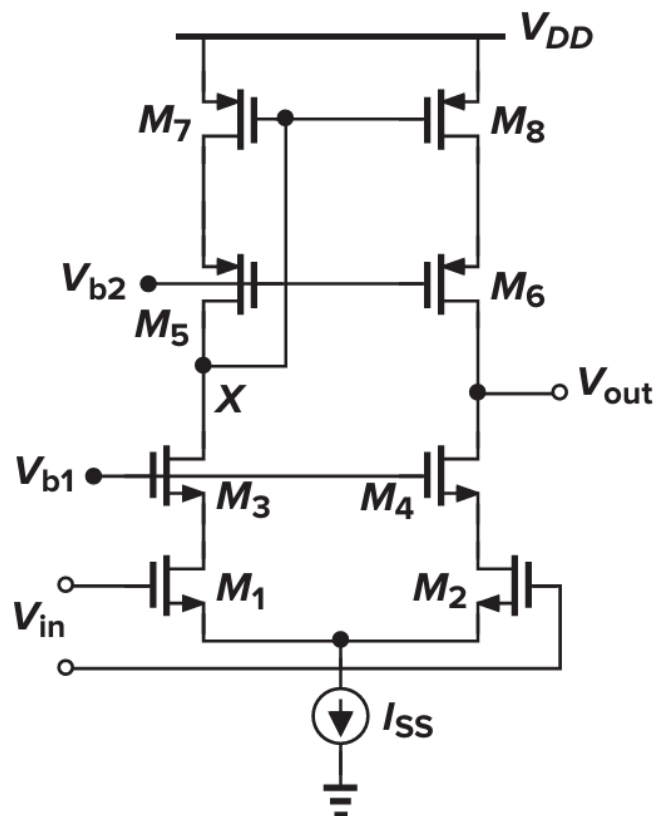

Fig.7.2
7.2 In the op amp of Fig. 7.2, $(W/L)_{1-8} = 120 \mu\text{m}/0.5 \mu\text{m}$, $I_{SS} = 1 \text{ mA}$, and $V_{b1} = 1.7 \text{ V}$. Assume that $\lambda = \gamma = 0$.